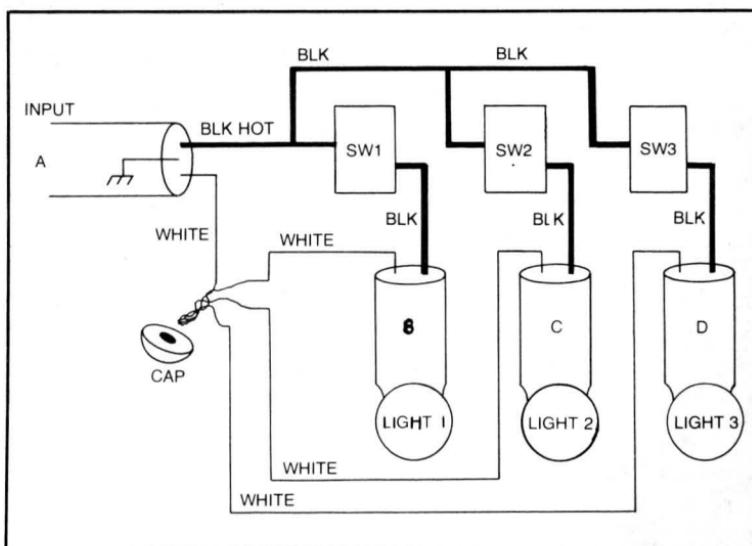

Fig. 6-41. A wiring diagram for three switches and three lights. A, B, C and D are Romex cables.
There are three switches needed here. A common "hot" line comes in and then the switches, one side of them, will be connected to this hot line. Then the other side of the switches will be connected to the black "run." In Fig. 6-41 the input hot cable is at (A) and it has three wires: one black, one white and one bare wire.
When switches are designated, all you have to do is pick out the incoming "hot" cable and then make the connections to switches as was shown in Fig. 6-41, whether it be one or four switches. Some professionals put a little notch or imprint in the insulation of the wires. For example on *travelers* (connections between switches at ends of hallways), they put three little indents.